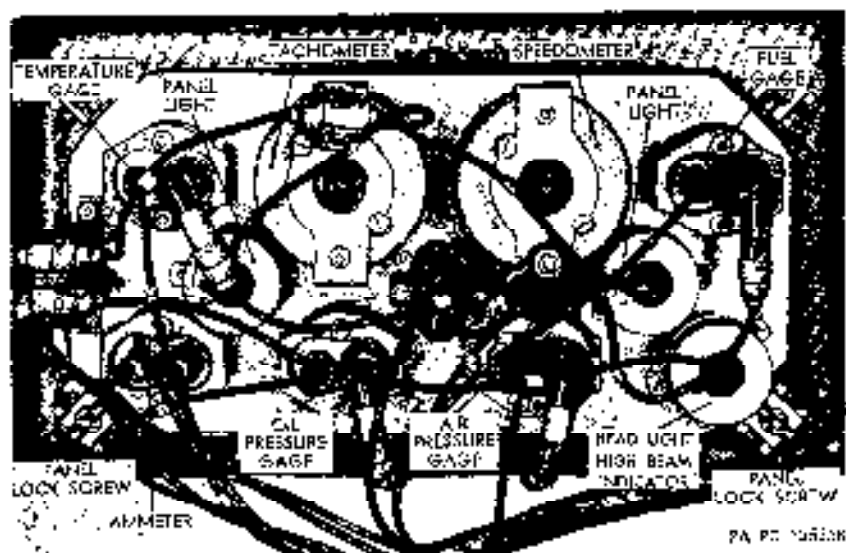

Figure 189. View of back side of instrument cluster.
a. Instrument Cluster. The instrument cluster (fig. 189), which is secured to the instrument panel in the cab by four quick-disconnect panel lock screws, consists of the instrument mounting plate with the instruments, gages, and lights in (1) through (9) below attached.
- (1) Air pressure gage
- (2) Ammeter
- (3) Fuel gage
- (4) Headlight high beam indicator light
- (5) Oil pressure gage
- (6) Panel lights
- (7) Speedometer
- (8) Tachometer
- (9) Temperature gage
b. Gages. The speedometer (fig. 189) and tachometer are mechanically operated units which are connected by flexible shaft assemblies to their sending units (c below). All other gages in the instrument cluster are electrically operated and are connected by electrical cables to their sending units (c below). Circuits to all gages are fed through the ignition switch (fig. 190), which causes gages to be activated only
c. Panel Lights. The two panel lights (fig. 189) illuminate all the gauges in the instrument cluster. These lights are controlled by the light switch (par. 49).
f. Headlight High Beam Indicator Light. The headlight high beam indicator light (fig. 189) is connected in the headlight high beam circuit (circuit No. 17, fig. 185), causing it to light only when the high beam circuit is energized by the dimmer switch (J, fig. 188).
a. Removal (fig. 189).
b. Installation (fig. 189).
- (1) *Connect tachometer and speedometer flexible shafts.* Position instrument cluster at opening in instrument panel, insert end of tachometer flexible shaft in tachometer, and tighten connector nut. Insert end of speedometer flexible shaft in speedometer, and tighten connector nut.
- (1) Remove four panel lock screws securing instrument cluster to instrument panel, and pull cluster away from panel.
- (2) Disconnect bayonet-type connector or clip on left (viewing back side of cluster) side of instrument mounting plate.
- (3) Remove two screws and lockwashers from front side of instrument cluster, and remove indicator light from back side of cluster.